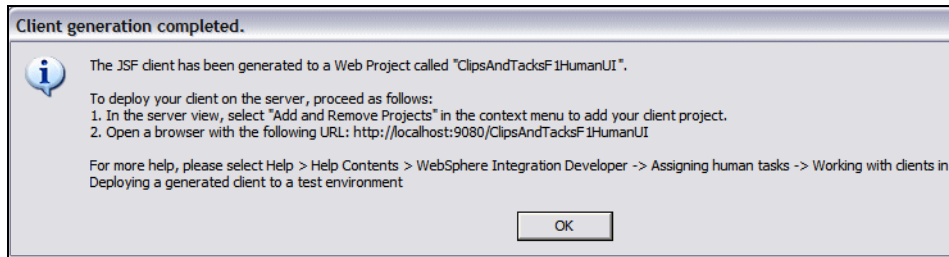

Figure 10-69 User interface has been created
- ▶ The user interface is generated, and pop-up window displays the instructions for deploying the generated user interface (Figure 10-69).